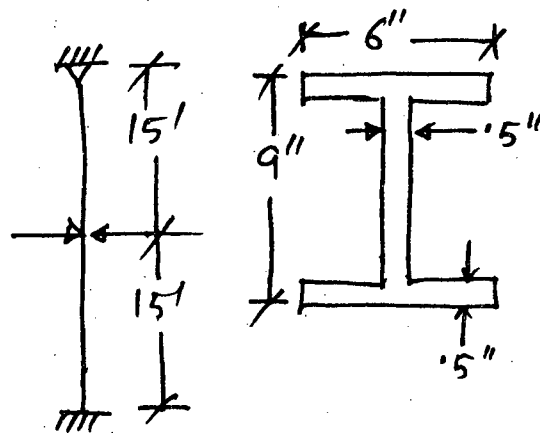

Fig. 1
1. (a) Compute the axial load carrying capacity of the column shown in Fig. 1. The column is fixed at both ends and braced at mid-height against buckling about the weak axis. Use A36 steel properties. Given that, (17)